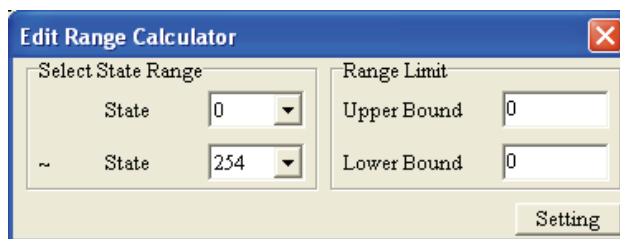

Figure 1-88
- Step 7. After pressing Refer Value button, the following Edit Range Calculator tab (Figure 1-88) will appear and it could help to calculate the setting range value for all states.
After using **Object(O) > Button(O)** command from the menu bar or clicking the icon  on the toolbar to create a Button object, the Button Setting tab like Figure 1-88 below will pop up. In the Button Setting tab, the users can use User Level option to protect the selected Button object. But, before using User Level this option, the users need to define the password for each user level by choosing **Tools(T) > User-Level/Password Setting(U)** first. Besides, the users also can click **View(V) > Object Inspector** command from the menu bar to open the Property tab and display all the properties of the Button object. The users could change the settings of the Button object directly by using the drop-down lists in the Property tab.